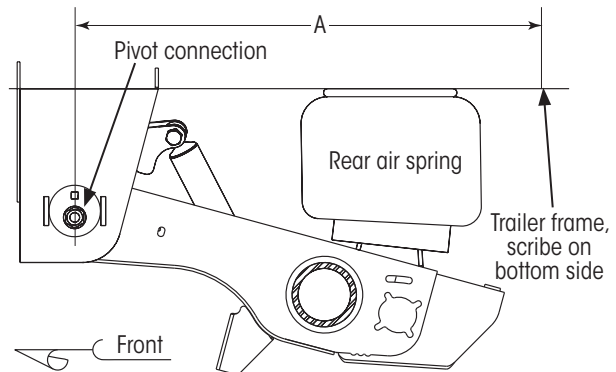

Figure 43: Sample locating measurement (AANT shown)
1. Refer to applicable installation drawings1 to **measure A** (Figure 43) and **locate** the support arm assembly on the trailer frame.